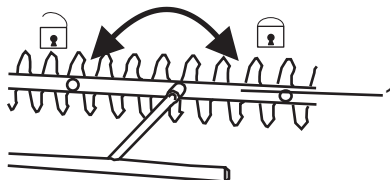

Fig. 25
- > Keep the cutting device (1) sharp. Have a worn or damaged cutting device replaced with a new one of the same type by a qualified specialist.
- > Tighten loose nuts on the cutting device (1) with a proper wrench with 5 N.m min, 7 N.m max. to ensure safe operation of your product (Fig. 25).